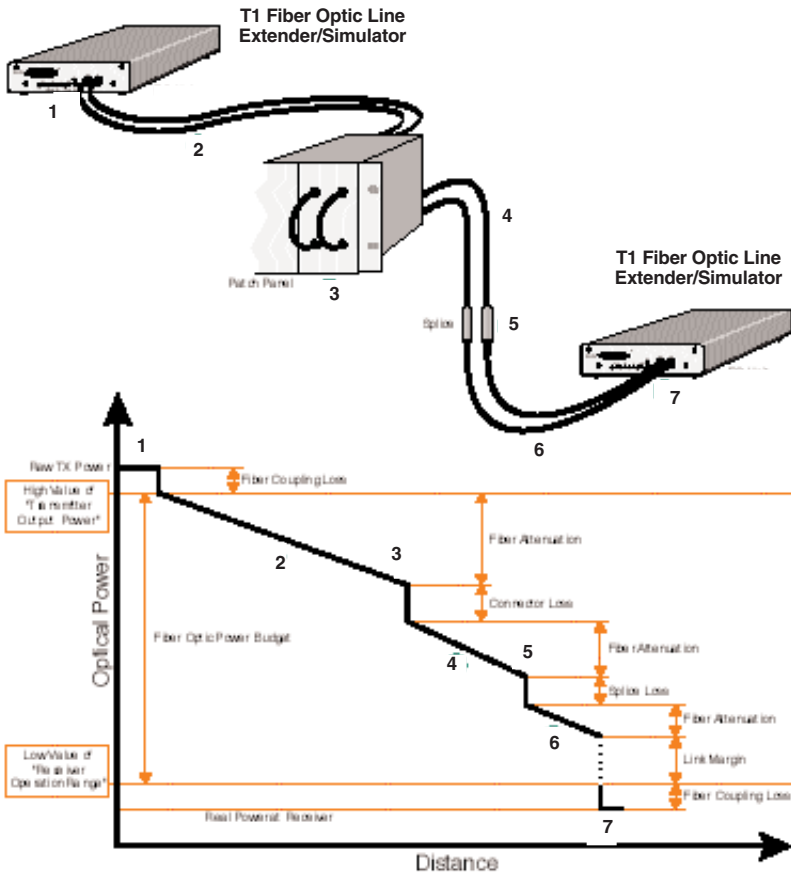

Figure A-1. Attenuation diagram.
Figure A-1 shows the various elements of the fiber optic link that decrease light intensity. Depending on the real installation, you must subtract a series of attenuation (att.) values from the raw optic output level of the fiber optic transmitter. The remainder of the originally transmitted light at the receiver must be at least as high as the minimum receiver sensitivity. Generally, you should project a link margin of at least 3 dB to allow aging and fiber repairs.
- (total system att.)=sum of all discrete attenuations (as shown in Figure A-1). This value is the attenuation of the link due to the link components.
Example values for calculations below (See Figure A-1):